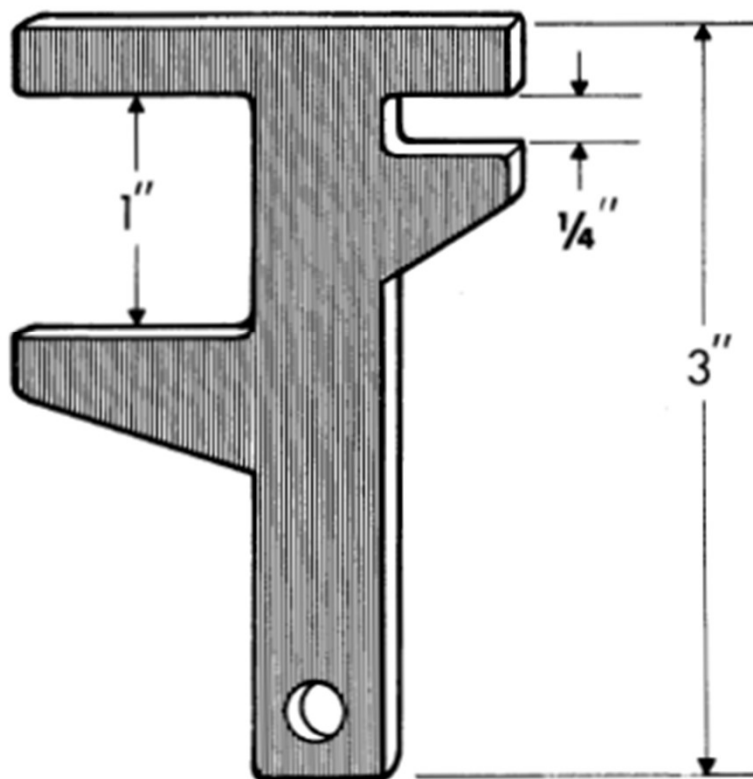

Figure 11.--A Go-No-Go gage can be cut from 1/16 or 1/8-inch sheet aluminum. Cut the notches slightly tight and file smooth to final dimensions.
5. Go-No-Go gage (fig. 11)	Determine size class of borderline particles.